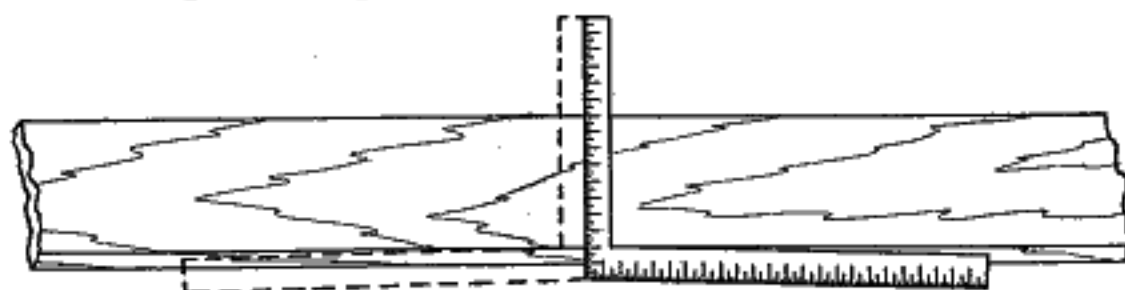

FIG. 5.—To test a square, square a line across a board that has a straight edge. Then turn the square over and see if the line checks square.
4. **Testing a Square.**—If a square is suspected of not being true, it may be tested easily. Use a board that has a perfectly straight edge. Place the blade of the square along the straight edge and mark a line across the board (presumably at right angles to the edge). Turn the square around (Fig. 5) and see if the line still checks square. If not, the square is not true.